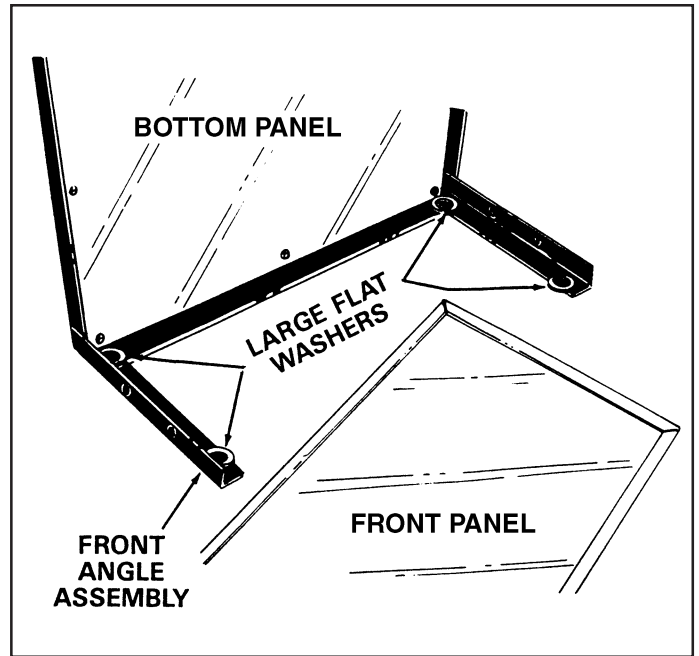

FIGURE 4
6. Stand the cart on its front end with the front angle assembly on the floor. See figure 4.
7. Temporarily place four large 1-1/2" dia. flat washers (used on wheel axle) on the inside of front angle assembly. See figure 4.